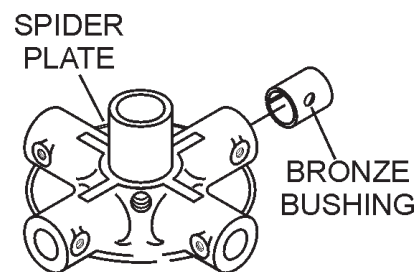

Figure 43. Bronze Bushings
4. Examine the bronze trowel arm bushing insert (Figure 43), clean if necessary. Replace bushing if out of round or worn.